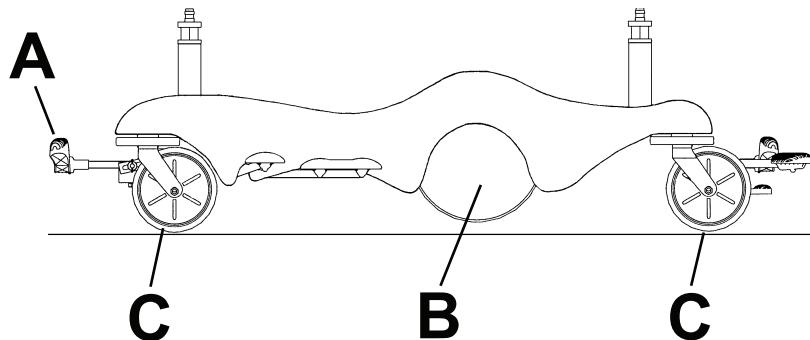

Figure 10 – Transporting without Big Wheel
3. Release the brakes. See *Applying and releasing the brakes* (page 17). Keep the brake/steer pedal (A) in the neutral (horizontal) position (Figure 10).